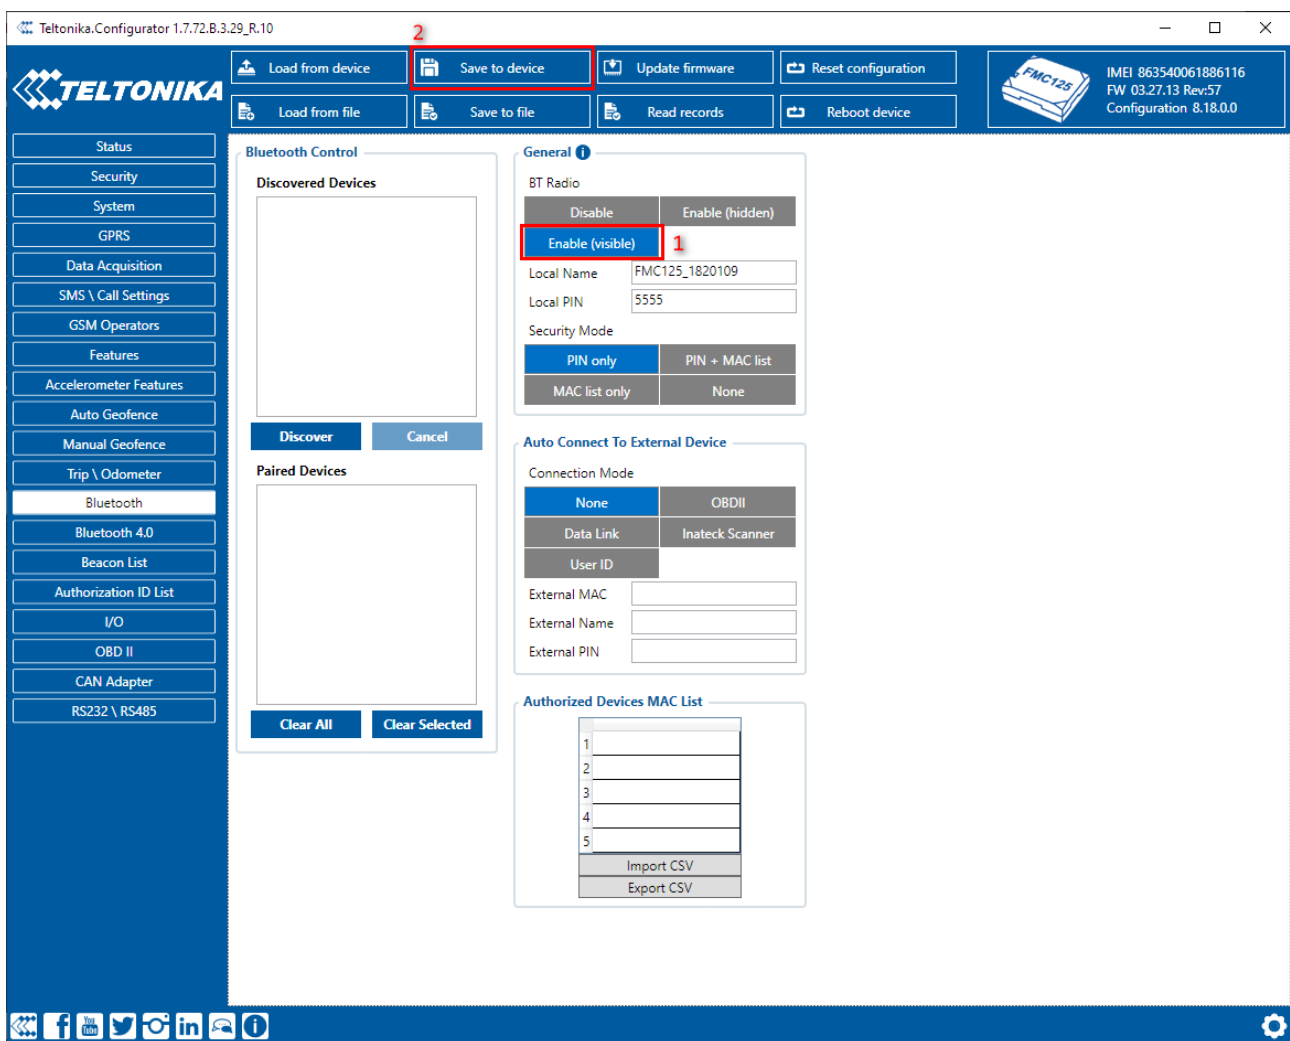

Figure K.1
K.1.1 On the "Bluetooth" tab (Fig. K.1): 1.